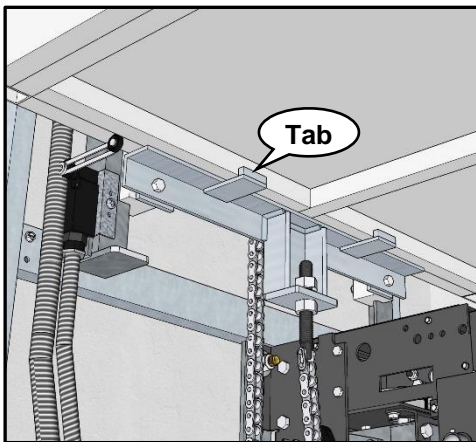

Figure 33
- 3** When positioning car on trolley, make sure the tabs are hooked under car as shown in **Figure 33**.